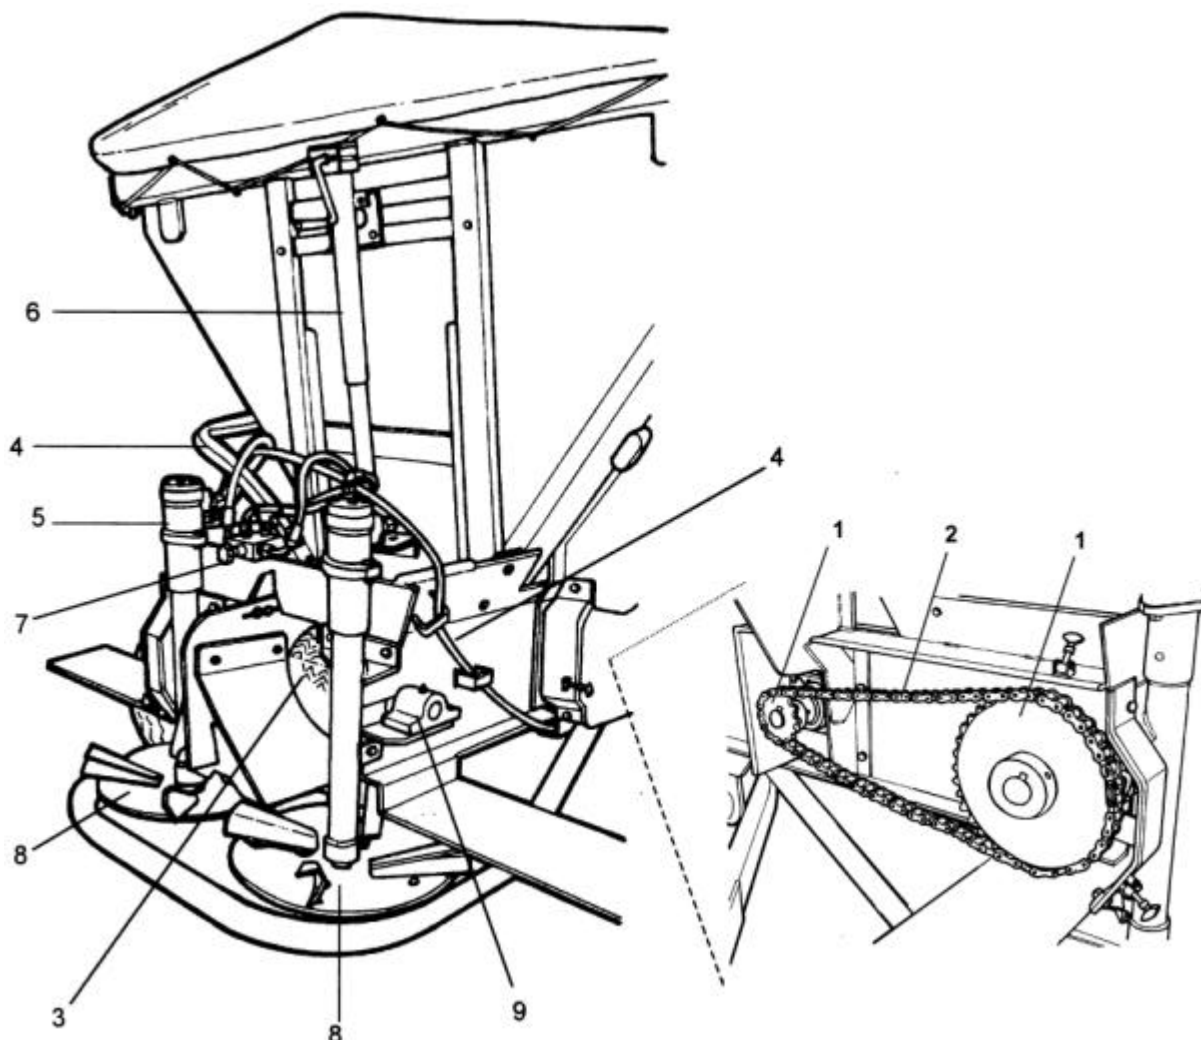

Figure 3 – 6000 Model
10. Check the condition and operation of the drive gears (both sides) (1) the chain (2) and feed belt (3) (Fig 3).
11. Check hydraulic hoses (4) and hydraulic motors (5) for damage and hydraulic fluid leaks (Fig 3).
12. Check the operation of the fertiliser flow control (6) (Fig 3).
13. Check the operation of the hydraulic system control block (7) and check for leaks (Fig 3).
14. Check the condition and operation of the spinners (8) (Fig 3).
15. Check the conditions of the bearing blocks (9) (Fig 3).